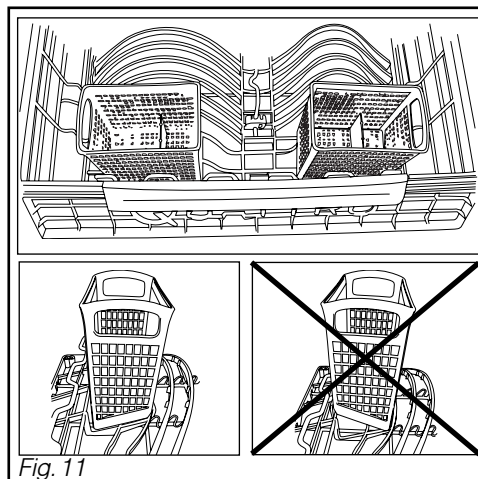

Fig. 11
- It is preferable to use 2 cutlery baskets in each drawer. (see fitting locations in Fig. 11)